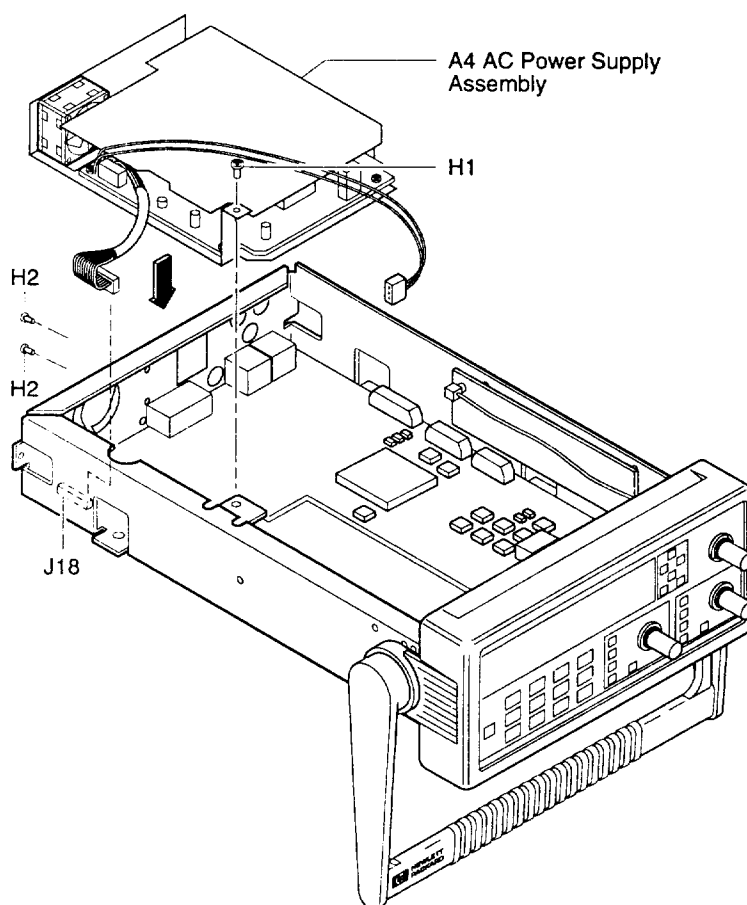

Figure 4-3A. High Stability Timebase Retrofitting (Option 001, 010, 012)
- a. Connect the power supply's larger cable to J18 of A1 Motherboard as shown in Figure 4-3A.**
- b. Mount the power supply to the rear of the chassis using the two TORX 10 screws (H2) as shown in Figure 4-3A.**
- c. Insert TORX 15 screw (H1), 0515-0433, in the upper-middle of the chassis as shown in Figure 4-3A.**